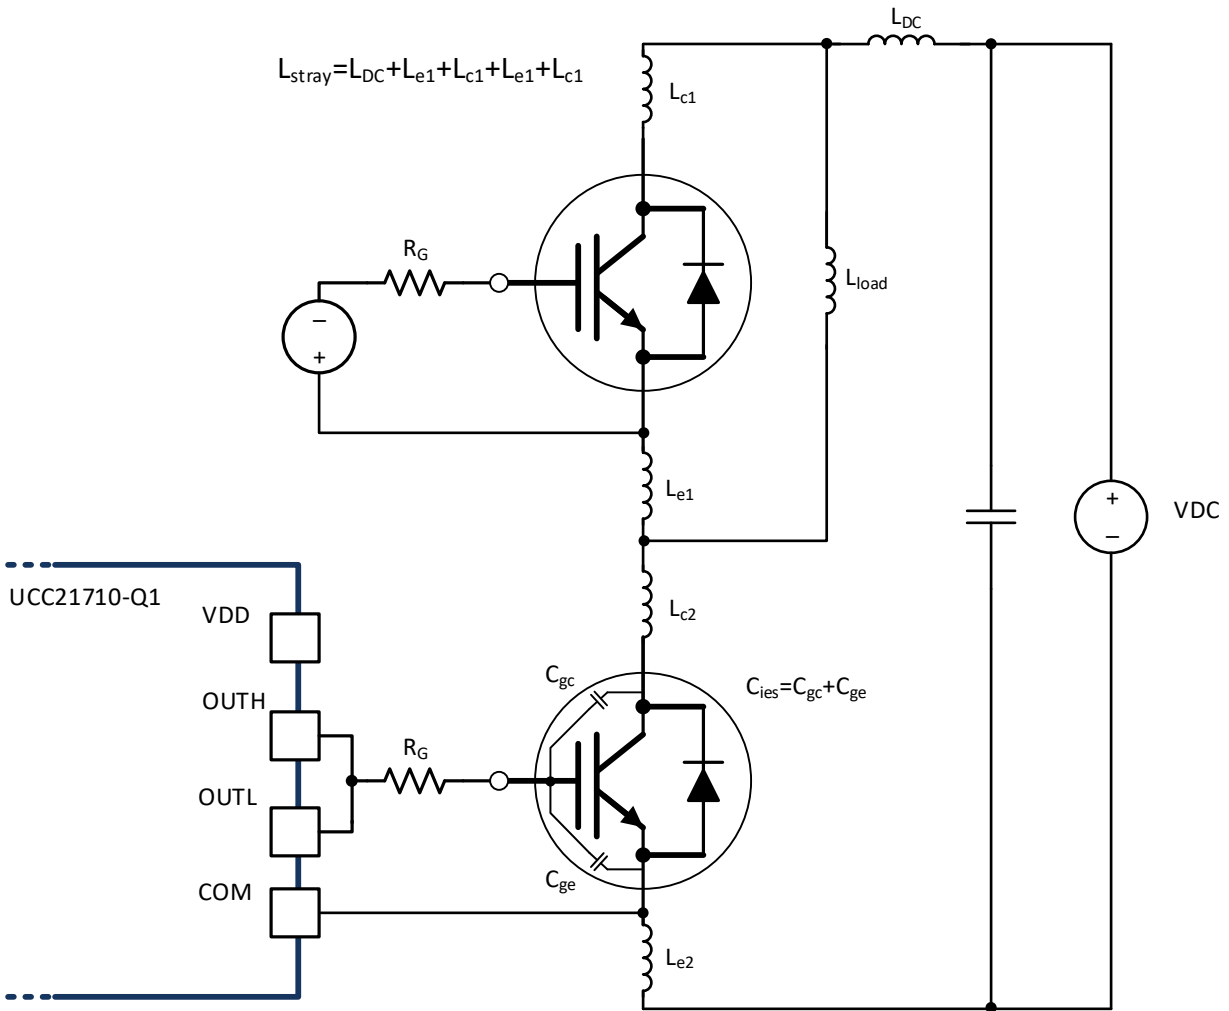

图 8-6. Stray Parasitic Inductance of IGBTs in a Half-Bridge Configuration
- $L_{\text{stray}}$  is the stray inductance in power switching loop, as shown in 图 8-6